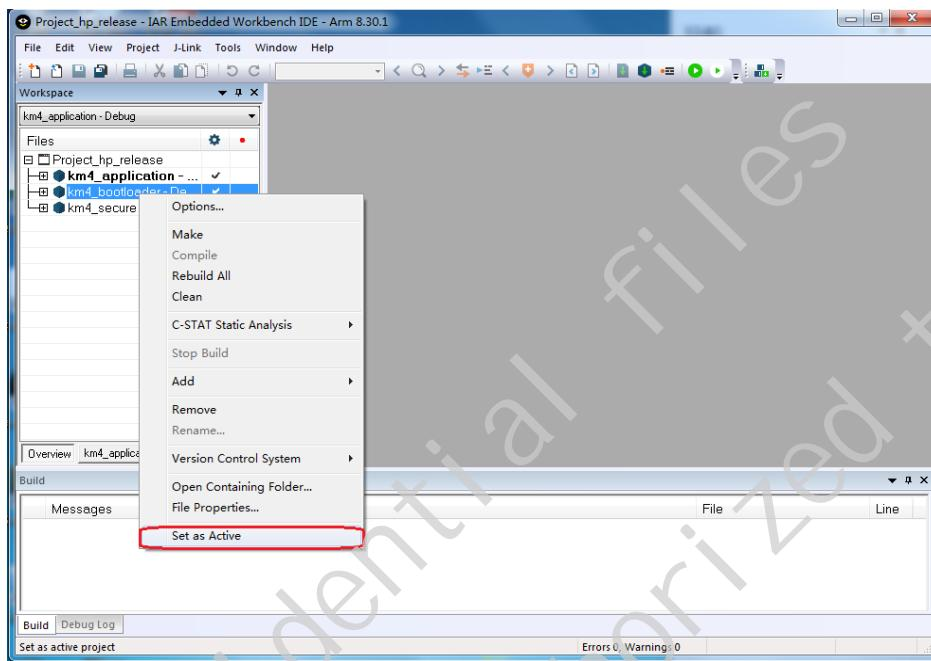

Fig 6-10 Setting Target Project as Active
- (1) Set the target project as active project in the workspace.
- Workspace > Overview, right click the target project > Set as Active, as Fig 6-10 shows.